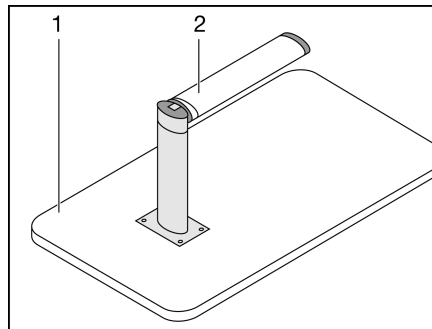

Fig. 54 Bed foundation
- Lift the front of the table-top (Bild 54,1) by approx. 45°.
- Pull the lower part of the fold-out leg (Bild 54,2) down and fold through 90°.